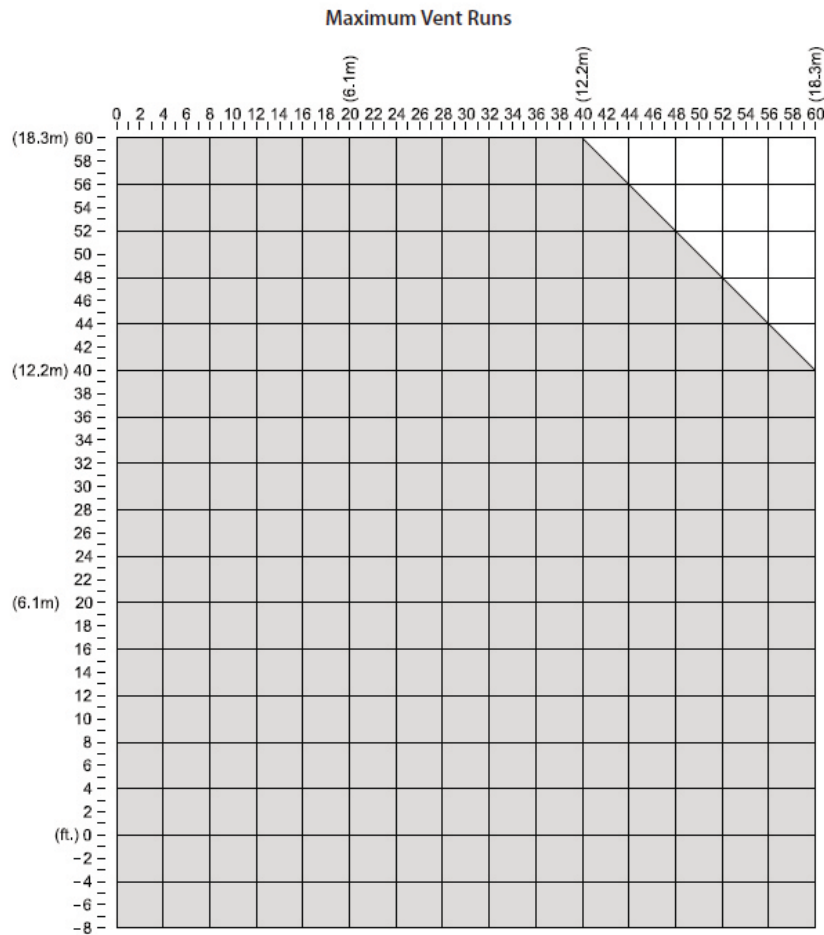

Figure 2.3 - Horizontal Termination Guide
- Use Figure 2.3 for a guide to calculate total vent run. Termination must be in shaded area.